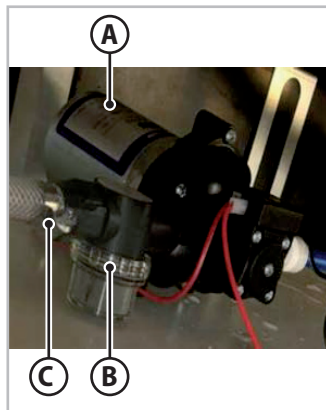

Fig. 7.1 - External water pump filter
3. Access the water pump (A - Fig.7.1) by removing the cushions from the dinette sofa and removing the drinking water tank compartment lid.
4. Unscrew the plastic connection (C - Fig.7.1) between the filter and the drain tube.
5. Undo the transparent cover (B - Fig.7.1) on the filter and extract the filter body.
Clean the expansion tank regularly (Fig.7.1), especially when the water flow from the taps is irregular, despite: